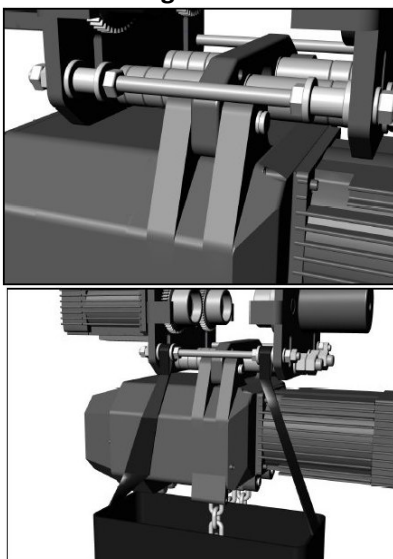

Figure 7 – Collector Bag (Type 118)
- 1 Position the chain collector bag (see Figure 7) to enable collection of the chain.